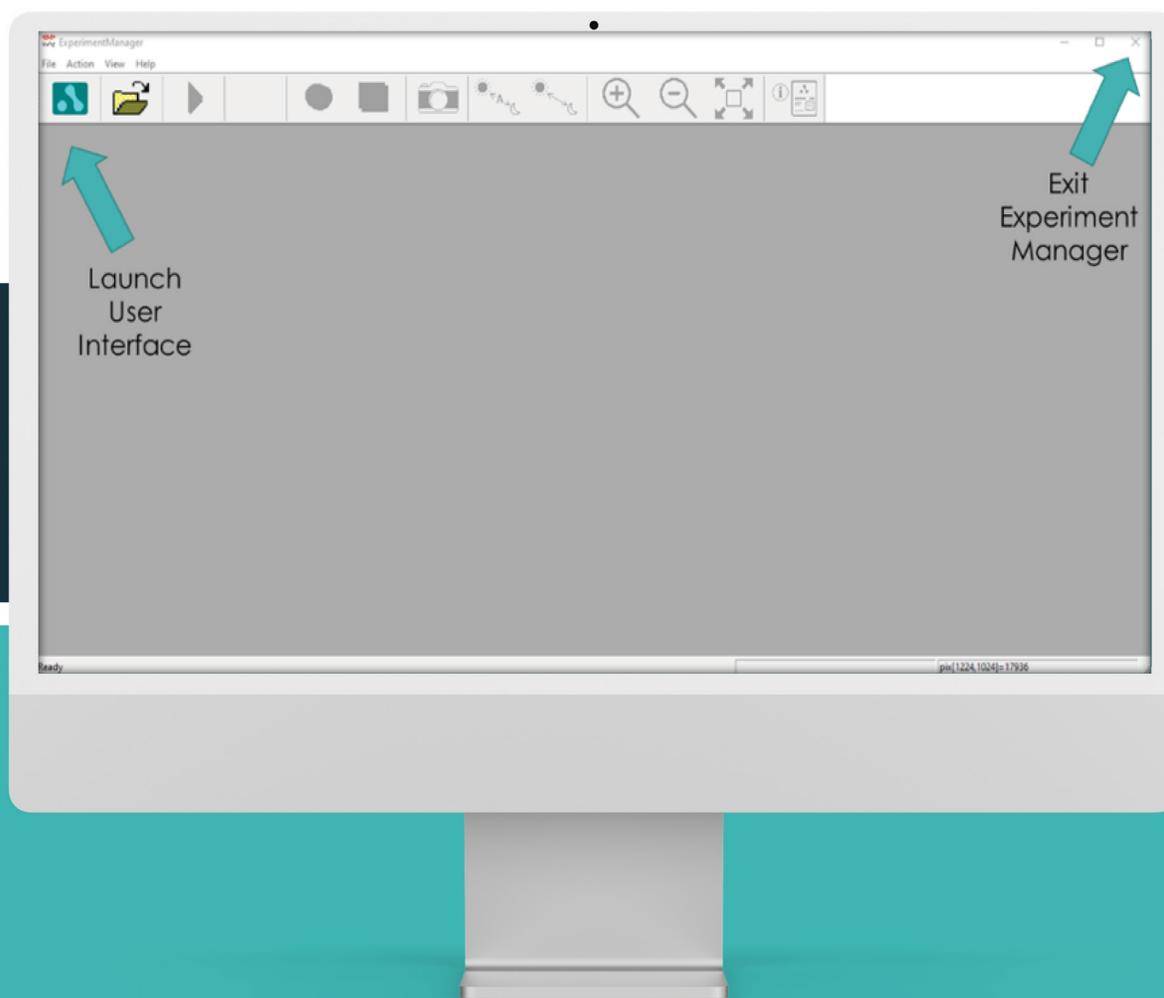

Figure 7.
- Launch the activity selection screen by clicking Figure 7.